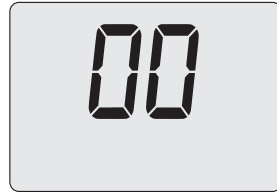

Fig. 8.12
- Press 17 (Fig. 8.9) to show the value of parameter P07 on the LCD display (Fig. 8.12).